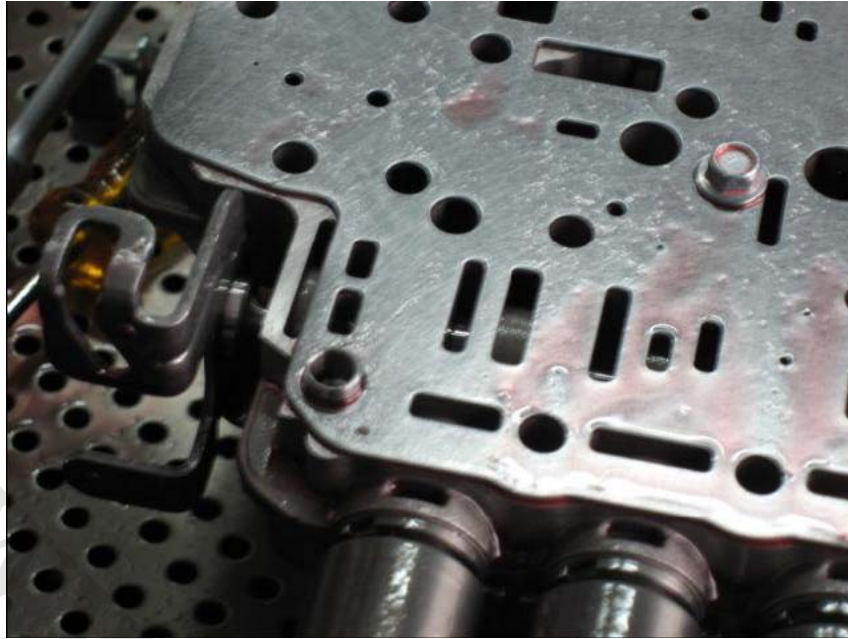

Fig. 12-4: Location pin behind hydraulic control block
- Install hydraulic control block, put the pin behind hydraulic control block into the right position (see Fig. 12-4)